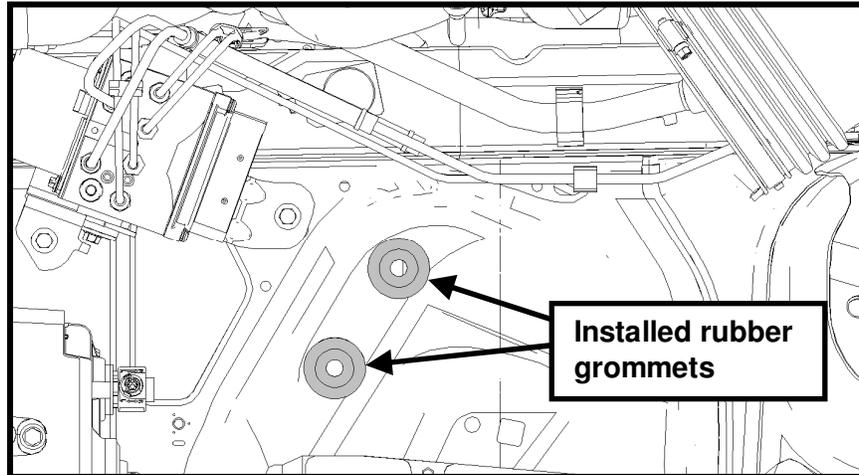

Fig. 34
- STEP 18:** Install the rubber grommets (previously removed from the factory airbox) into the holes located beneath the airbox, rearward of the ABS module (See Fig. 34).